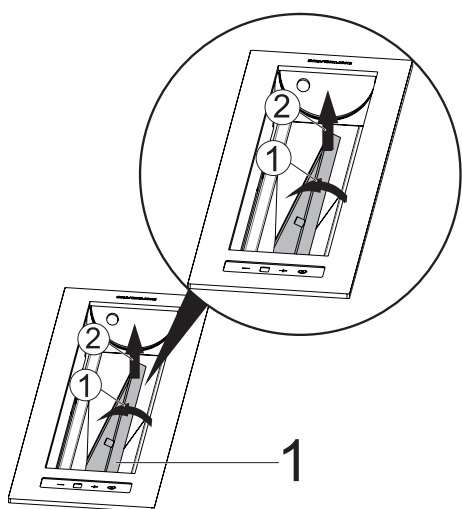

Fig. 22
3. ➤ ■ Pull back the aluminium metal filter via the holder on it (Fig. 22/1).
- Remove the active carbon filter by pulling it towards the direction of the arrow (Fig. 22/2)